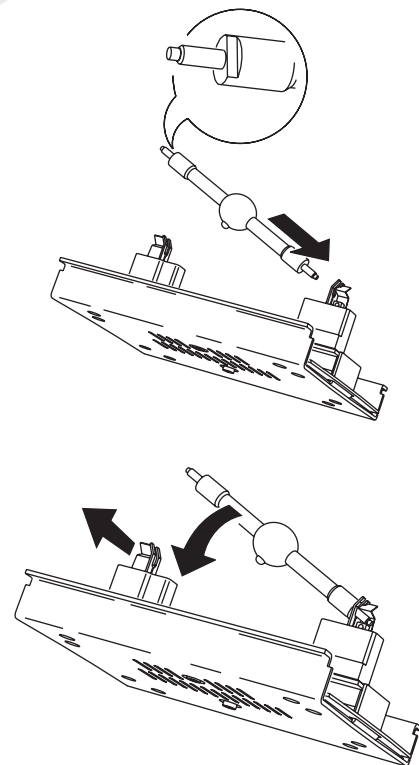

Figure 11: Lamp insertion
The ends of the lamp are profiled with special keys, as shown in Figure 11, to ensure proper installation. Do not use lamps with keys in a non-keyed SFc 10-4 socket.
- 5 See Figure 11. With the nipple on the bulb facing the back, insert the right end of the new lamp in the socket. Pull up on the left spring and snap the other end into place.